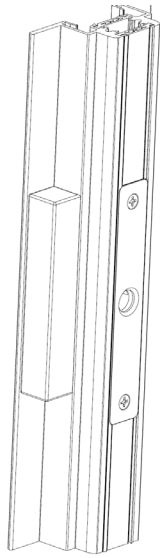

Figure 19
22. Drill four (4) 3/16" clearance holes at the marked locations of the strike plate. Anchor the lock strike to the jamb with #10 x 2-1/2" PH Flat Head screws. Shim as needed to avoid bowing the frame. (See Figure 19.)